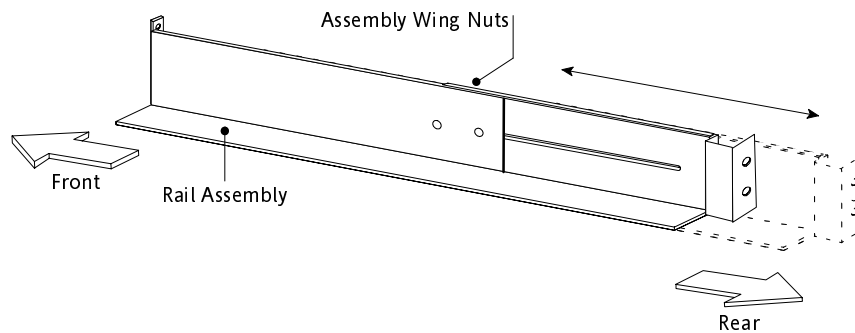

Figure 1. Adjusting the Rail Depth
1. Loosen the assembly wing nuts on both rail assemblies and adjust the rail size for the depth of your rack (see Figure 1).